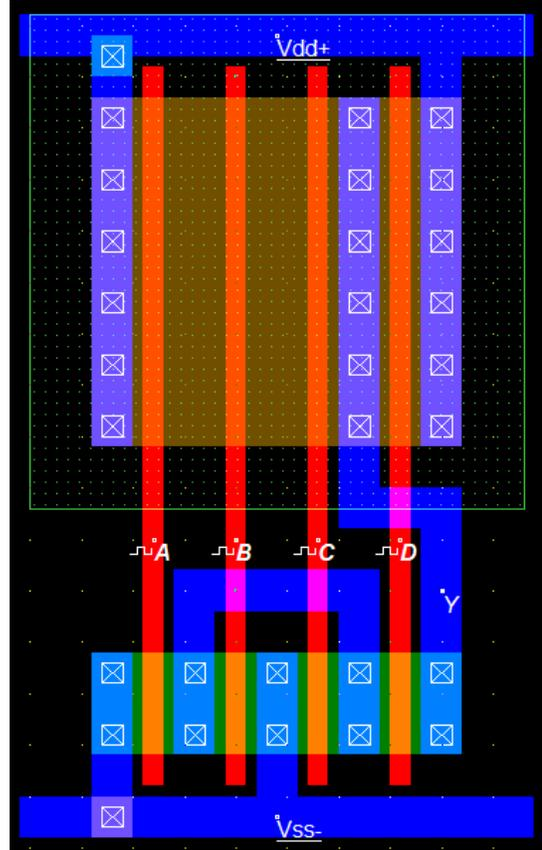

Figure 7
Then place appropriate input (clock) signals on polysilicon fingers, and VDD and GND on rails. Lastly, place a “Visible node” on output (Y) terminal. The final layout of CMOS OAI31 is depicted in Fig. 7.